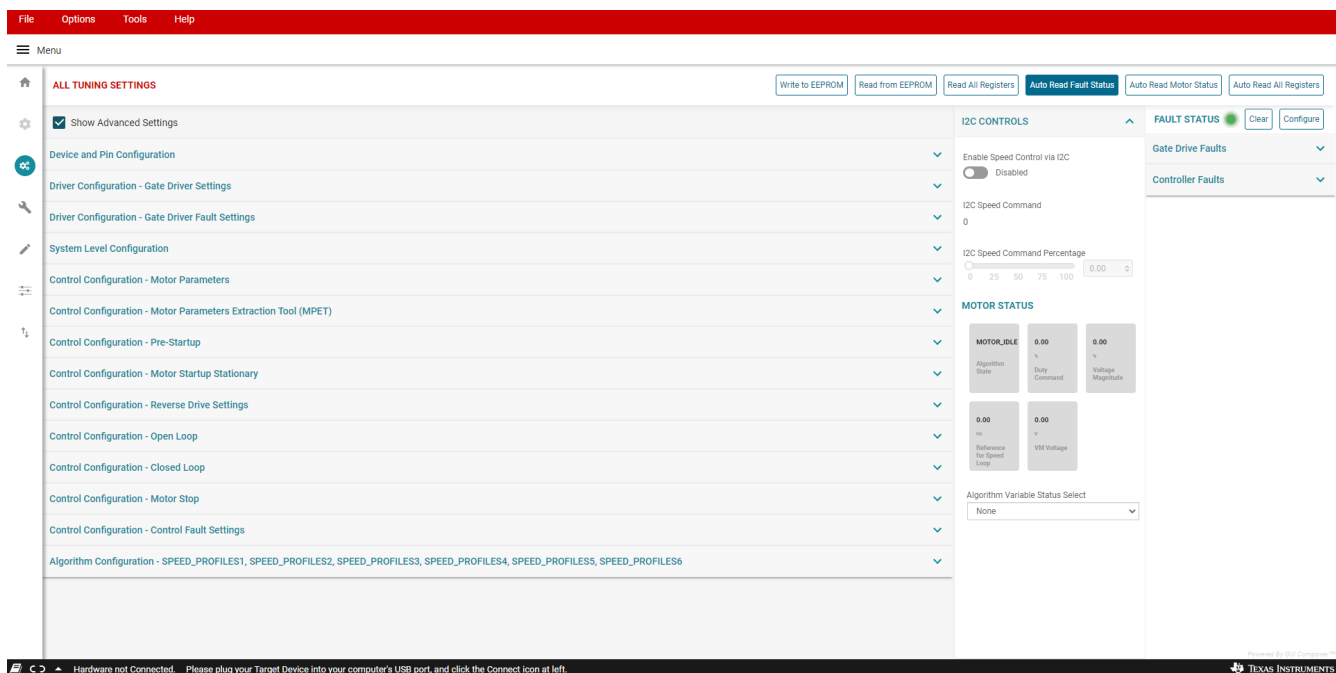

Figure 2-1. Fault Status
- b. Clear the fault status registers by clicking on the “Clear” button in the Fault Status side panel to the right as shown in Figure 2-1